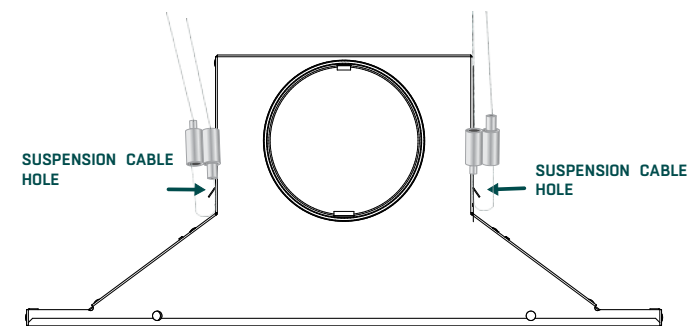

FIGURE 3. Cable suspension installation
- 1) Chilled beams shall be independently suspended from the structure above by four (4) cables (see **FIGURE 3**) or four (4) threaded rods of 3/8" diameter. The upper end of the rods may be anchored into the structure or suspended from metal channels that are: